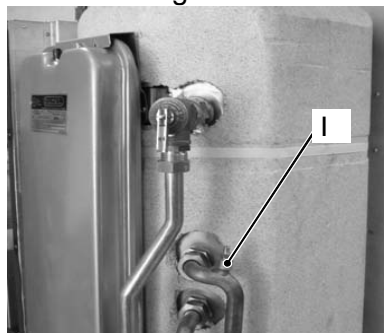

Figure 8
- 3) Loosen the d.h.w. storage tank air purge valve I (Figure 8).